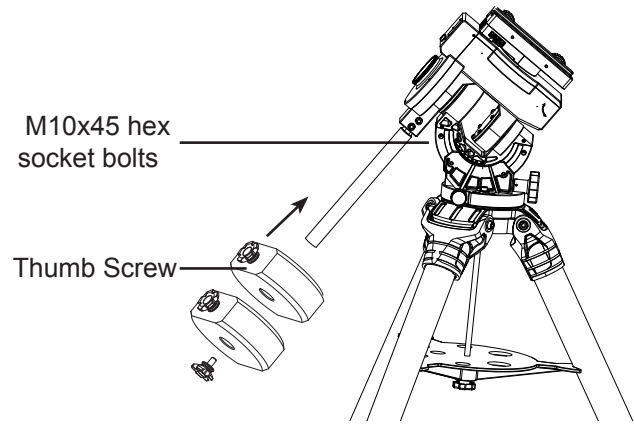

Fig. 1.3b
3. Loosen the counterweight's thumb screw and slide the counterweight onto the counterweight rod. Retighten the thumb screw to secure the counterweight on the rod. (Fig. 1.3b)